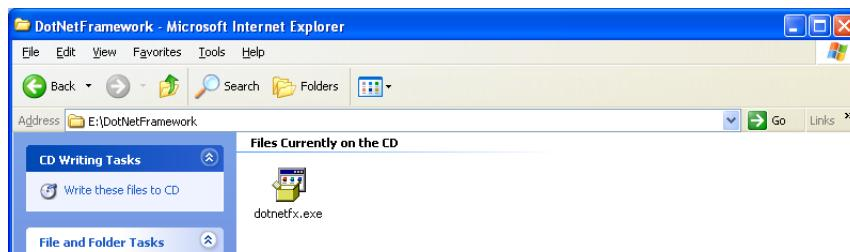

Fig.2-4 .Net Framework installation
- ⑨ Return to the browser window shown in Fig.2-4 and click the **Back** button.
- ⑩ On the menu program window, click **IVI Shared Components**.